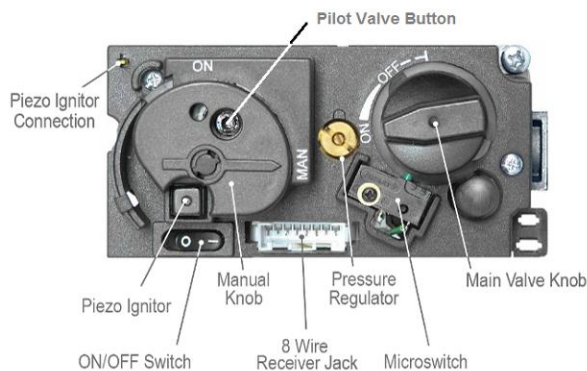

Figure 18 – GV60 Valve Configuration (Top)
- Locate and turn the MANUAL Knob on the valve clockwise to the "MAN" position (see *Figure 18*).
- Once the pilot lights, continue holding the Pilot Button for one (1) minute. Release the Pilot Button and the pilot flame should remain on.